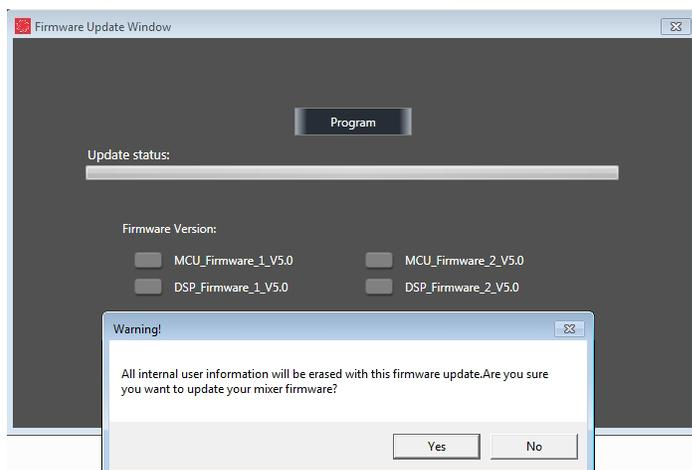

Figure 6.1c: Firmware Update
5) Click the "Update Firmware" button, then on the next screen click "Program" (see figure 6.1c). The status bar will begin to show progress. **Do not turn off the mixer or interrupt the procedure until the entire process is complete.** The entire update takes about five minutes.